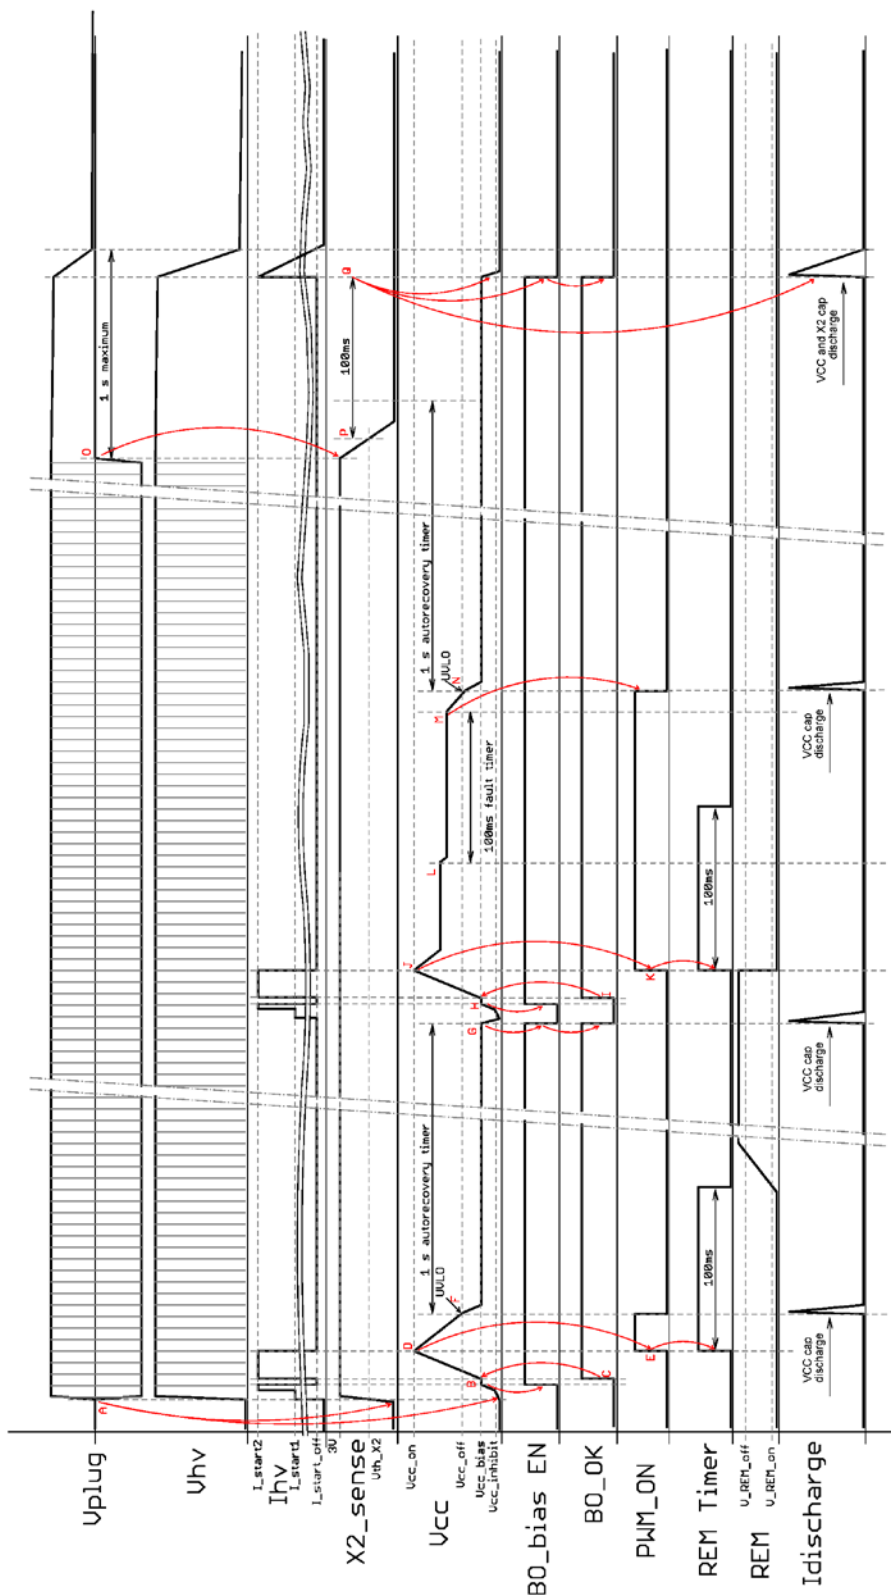

Figure 49. IC Operation Sequencing – Case 4 (Active ON)
The SCYW99143 latch pad can be used to latch the HV startup block off in case of serious fail in SMPS. The internal latch signal from slave SMPS controller has to be provided to SCYW99143 in case of co-packaged solution. When the slave controller Latches-off without inter-bonding Latch information, the SCYW99143 detects only that Vcc was lost because of missing driver pulses i.e. no power from auxiliary winding. The SCYW99143 goes then into auto-recovery mode and restarts operation after T_{A-rec_timer} by a new start-up sequence refer to Figure 49. If the slave
4. Application start into short circuit, auto-recovery restart, overloads then AC line off – Figure 49: